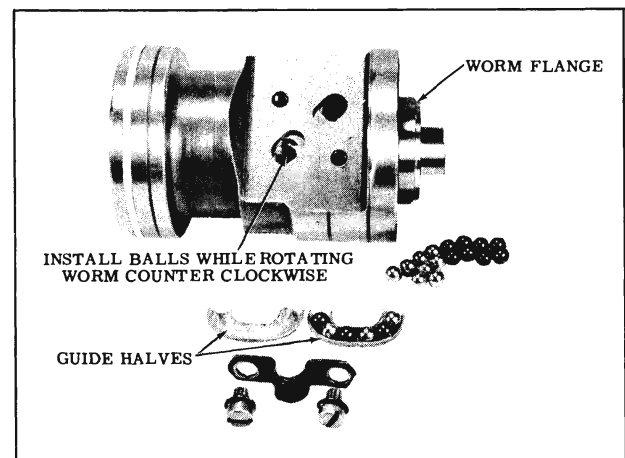

Fig. 4-59 Installing Balls in Rack-Piston
3. Turn the worm until the worm groove is aligned with the lower ball return guide hole. (Fig. 4-59)